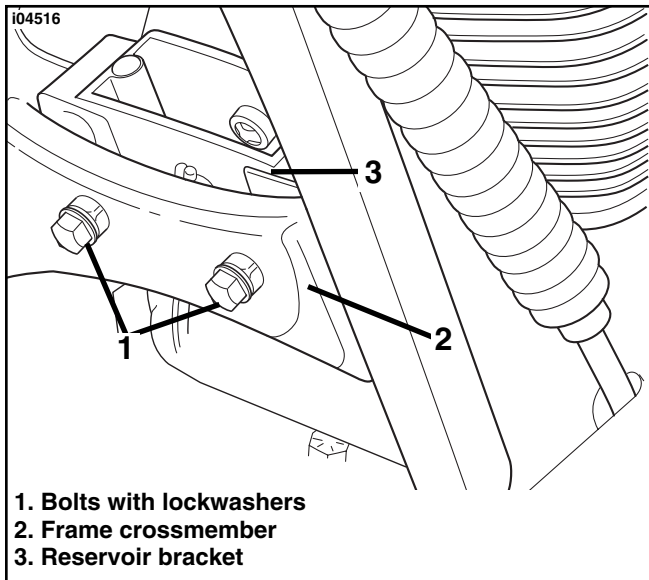

Figure 8. Install Reservoir/Bracket to Frame Crossmember
2. See Service Parts Illustration and Figure 8. Obtain two Bolts (40) and two Lockwashers (51) from kit. Orient Reservoir/Bracket on engine side of frame downtubes and install to frame crossmember as shown.